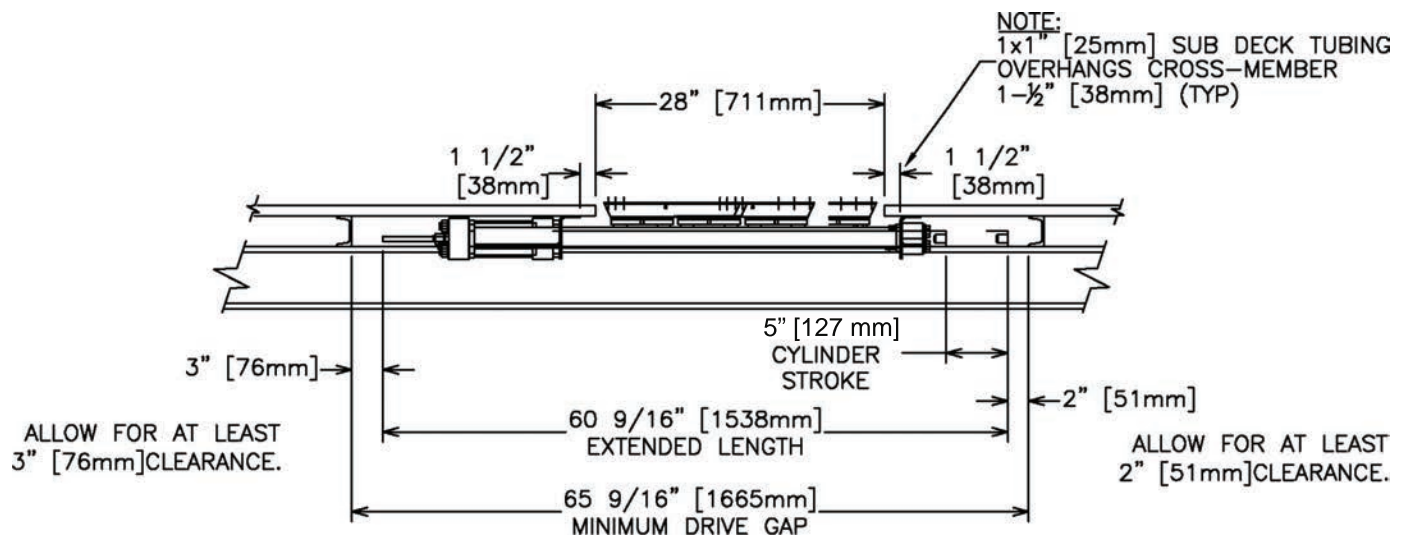

Figure 9
- 2) Determine the proper length for the 1" [25 mm] square tubes. Lay out the tubes, noting that they must extend 1-1/2" [38 mm] inside the drive cross-members and beyond all other cross-members by 2" [50 mm]. The number of tube sets installed will equal the number of floor slats. (Figure 9)
Place the remaining tubes in the trailer and clamp them down using the sub-deck jigs provided by KEITH Mfg. Co. Fasten the tubing to the cross-members by welding or bolting as detailed for the master above. Systematically work from one end of the trailer to the other end. Rotate the jigs, one at a time, so that one jig is always clamped over the last welded cross-member, while the other jig is moved forward to the next cross-member. Clamp the jig and tubes to every cross-member or every other cross-member, depending upon how straight the stock tubing is. Remember to allow for the sub-deck to overhang the formed cross-members on the drive unit. The sub-deck will also overhang the final cross-members at the front and rear of the trailer (Figure 9).